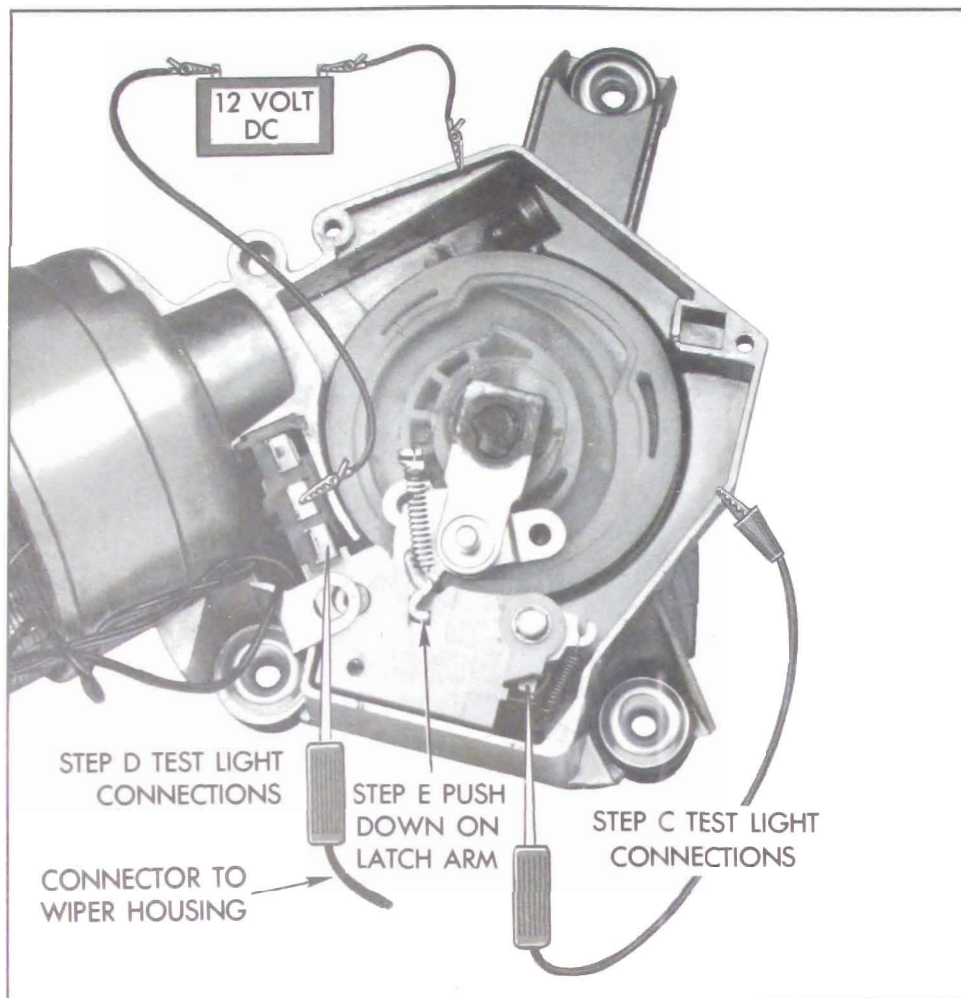

Figure 10-116—Test Light Checks
to relay switch terminal as shown in Figure 10-116.
(d) To determine if relay coil is open connect test lamp to wiper Terminal No. 1, Figure 10-116.
arm down toward relay coil. See Figure 10-116. Next, remove a small amount of insulation from black lead with pink tracer and touch test lamp to exposed wire.
2. If wiper gear drive pawl is in full park position (Figure 10-116), remove gear assembly. See subparagraph e below.